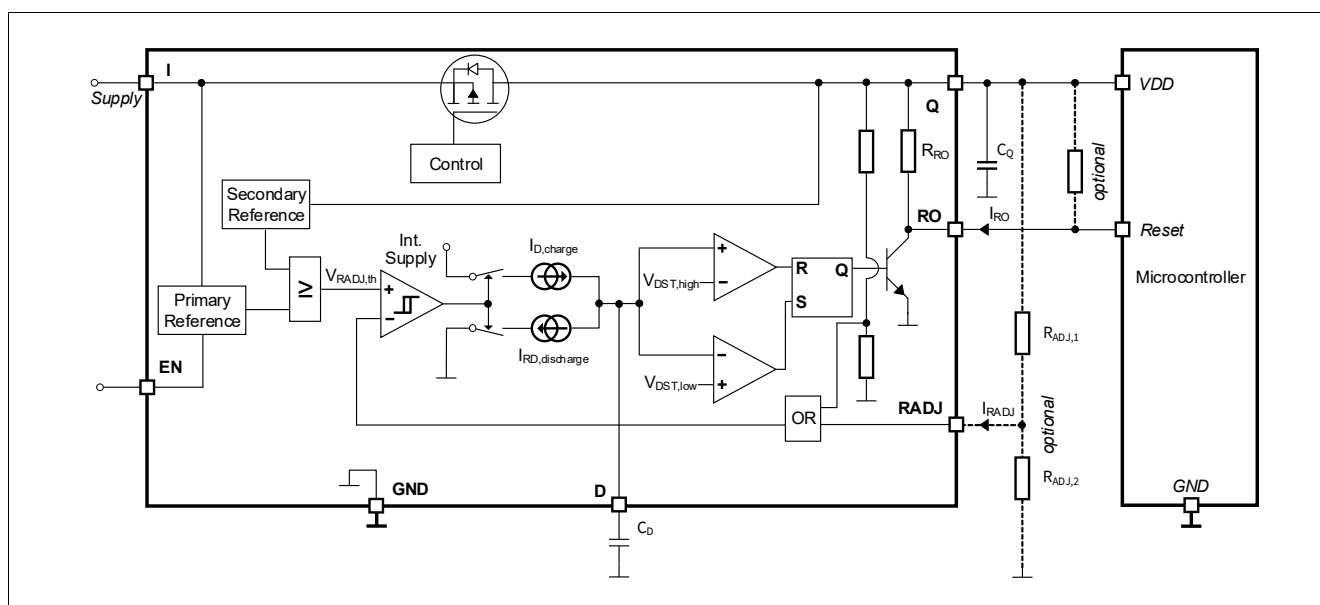

Figure 7 Functional block diagram reset
- $R_{ADJ,1}$, $R_{ADJ,2}$: Resistors of the external voltage divider, see Figure 7
$V_I = 13.5 \text{ V}$, $T_j = -40^\circ\text{C}$ to 150°C ; all voltages with respect to ground; direction of currents see Figure 7 (unless otherwise specified).
$V_I = 13.5\text{ V}$, $T_j = -40^\circ\text{C}$ to 150°C ; all voltages with respect to ground; direction of currents see Figure 7 (unless otherwise specified).